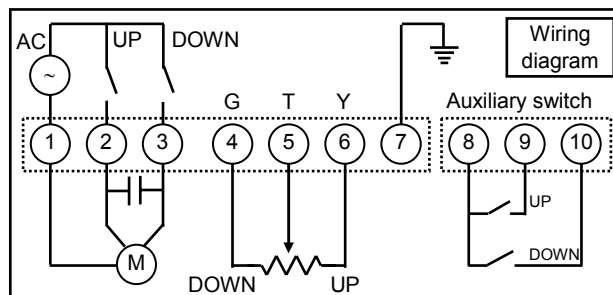

Figure 9. Terminal connection
- Check Wiring diagram (Fig. 9) to avoid incorrect connection.